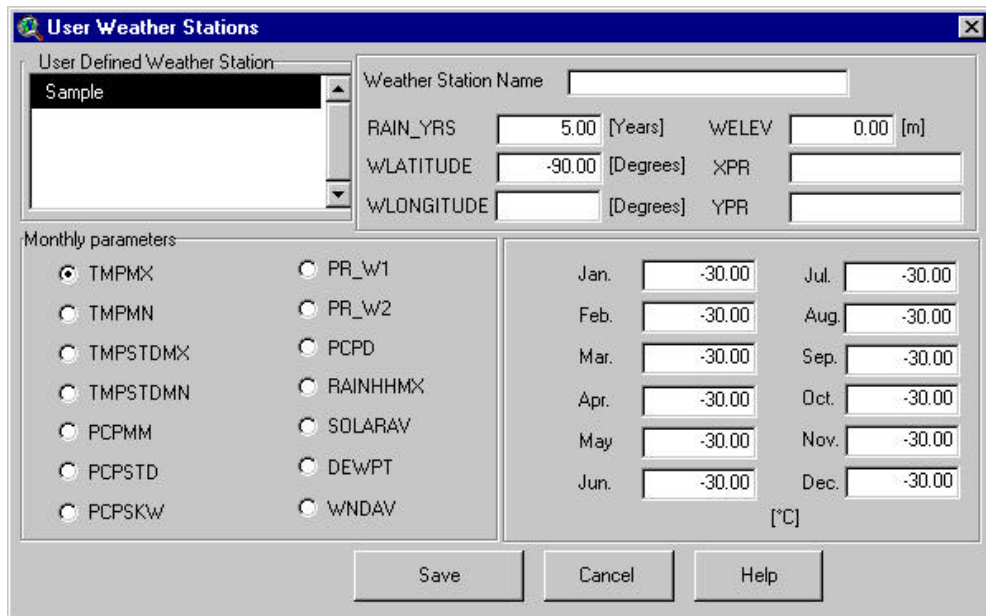

Figure 14.25
- c. A modified dialog box will appear with all the data fields filled (copied from the previously selected weather station data) except the weather station name (Figure 14.25).